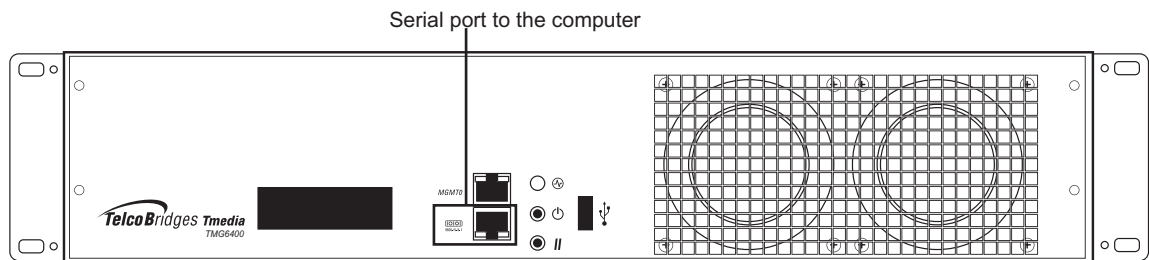

Figure 3.3 Computer to TMP6400 Telecom Unit Serial Port Connection
1. Connect a CAT5 RJ-45 (male-male) cable (supplied with unit) between the com port of your computer and the serial port (labelled 10101) of the TMP6400 Telecom Unit as shown in figure 3.3 on page 55. See Section A.2 on page 63 for a RJ-45 console wiring diagram.